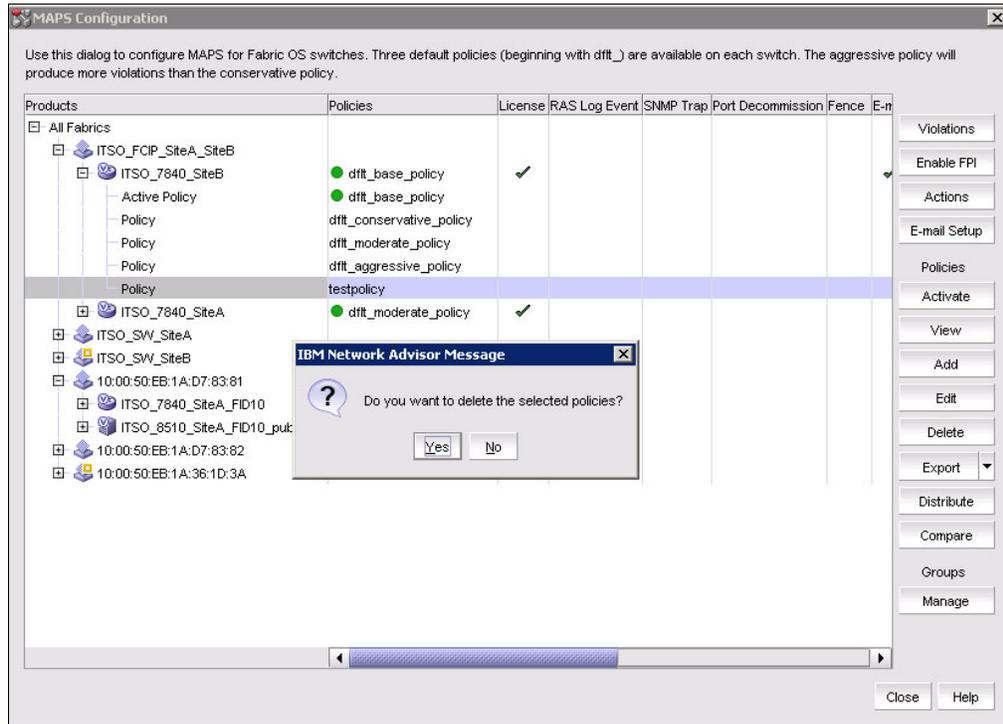

Figure 7-9 Delete MAPS policy
3. Click **Yes** on the confirmation message (Figure 7-9).